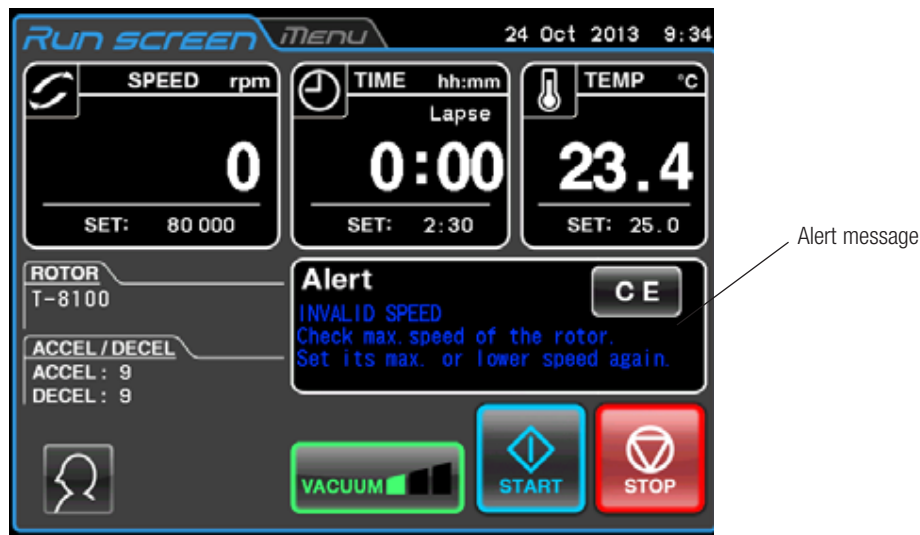

Figure 36: Displaying an alert message
3. The ultracentrifuge requires clearance greater than 20 cm at its rear wall and floor space of at least 90 x 90 cm (See Figure 36 Place of installation). Ensure the instrument surroundings allow free air circulation. Avoid installing the ultracentrifuge near any other heat-generating machine/equipment, as this may reduce the cooling capacity of the ultracentrifuge.